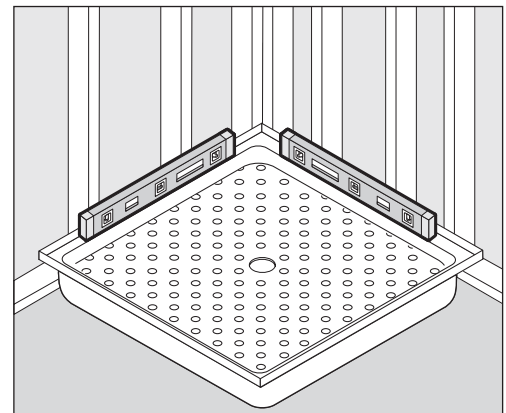

FIGURE 1. Check to assure pan is level.
- Trial fit base in prepared alcove. With pan sitting flat on floor, check with level on top of pan. Pan should be level from front-to-back and side-to-side (**Fig 1**). If pan is not level, remove pan and level floor using leveling compound.